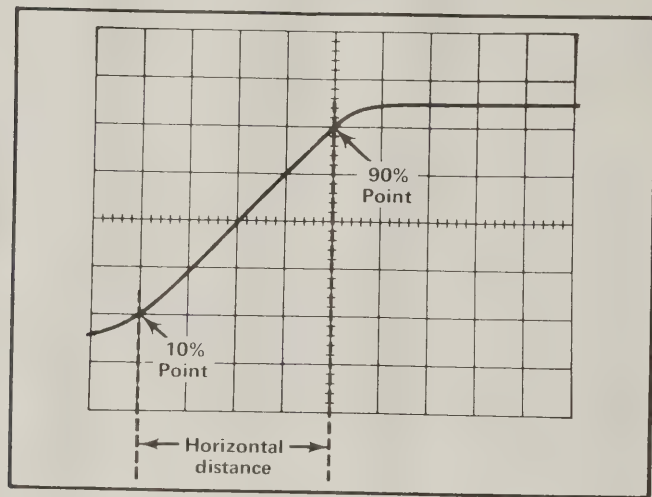

Fig. 5. Measuring risetime.
Example. The frequency of the signal shown in Fig. 5 which has a time duration of 0.5 millisecond is:
7. Adjust the horizontal POSITION control to move the 10% point of the waveform to the first graticule line. For example, with a five-division display as shown in Fig. 5, the 10% point is 0.5 division up from the start of the rising portion.
Example. Assume that the horizontal distance between the 10% and 90% points is four divisions (see Fig. 5) and the TIME/DIV switch is set to $1\ \mu\text{s}$. Applying the time duration formula to risetime: